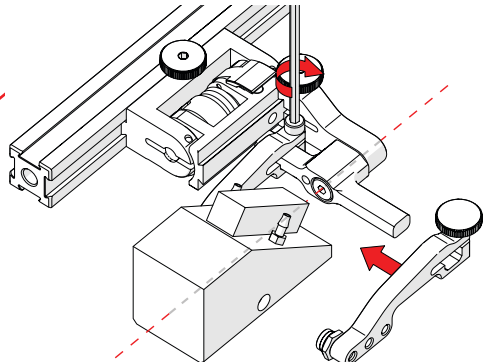

Fig. 33 - Place wedge
7. Position the wedge on the inner probe holder arm (Fig. 33).